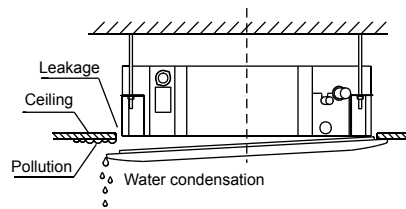

Fig.5-14
- Malfunction described in Fig.5-14 can be caused by inappropriate tightness the screw.